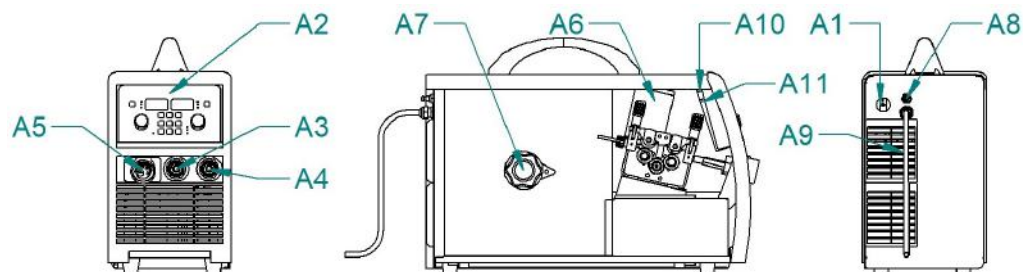

Figure 1: Device construction
6.3 Installation of the wire spool (according to figures 1, 2 and 5)
6.5 Inserting the wire into welding torch and connecting the ground cable (according to fig. 1)
7. Press button **A11** (according to figure 1). The welding wire is fed to the welding torch.